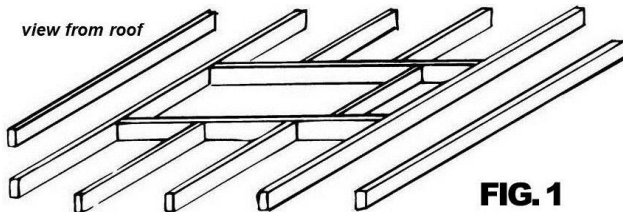
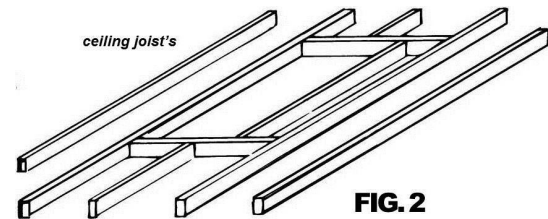

FIG. 1
FIG. 2
STEP TWO: *What you need to make the opening – Timber Joist (Fig. 1 and Fig. 2):* Timber, MPG10, 90x45mm pine or hardwood, about four (4) metres for the 'Access-Boss' Series and about five (5) metres for the 'Big-Boss' Series will be enough. Pick a straight piece with minimal knots, and about 2 doz. 90mm long nails.